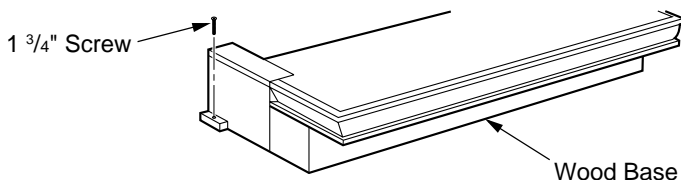

Figure 13 - Attaching Wood Base to Floor
10. Attach wood base to floor with two 1 ³/₄" black screws provided (see Figure 13). If the floor is concrete use anchor method (see *Attaching Wood Base to Solid Floor*, page 17).